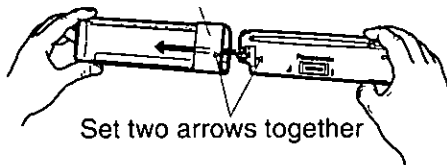

Fig.3
- ④ As shown in Fig.3, insert the removable face plate with the arrow pointing toward the removable face plate case until you hear a "click". Keep the removable face plate in the case. Then, you can bring the plate safety.